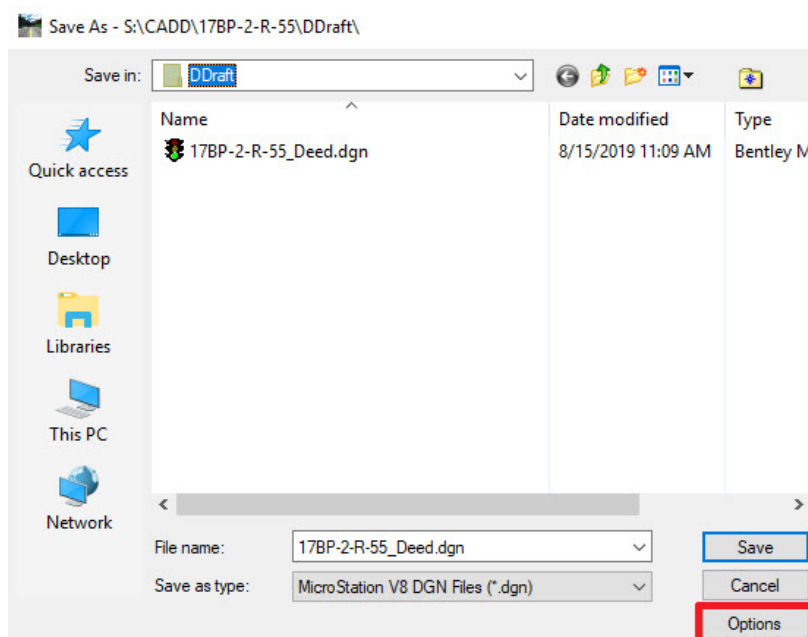

Figure 27 “Save As Options”
Step 2. Important – BEFORE you click SAVE, select *Options* in the SAVE AS dialog box. (Figure 27 below)